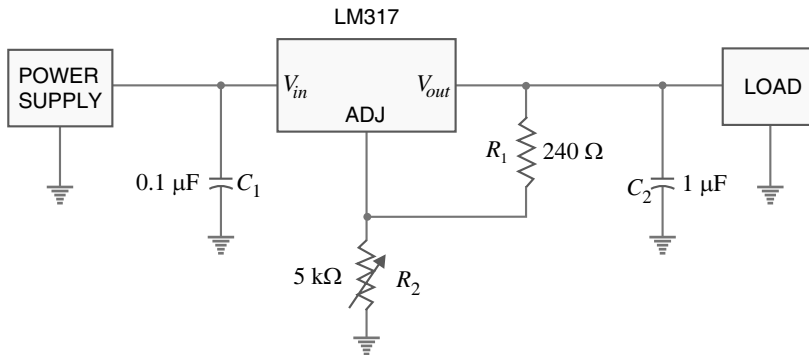

Fig. 15.30
**Example 15.25.** In Fig. 15.30,  $R_2$  is adjusted to  $2.4\text{ k}\Omega$ . Determine the regulated d.c. output voltage for the circuit.